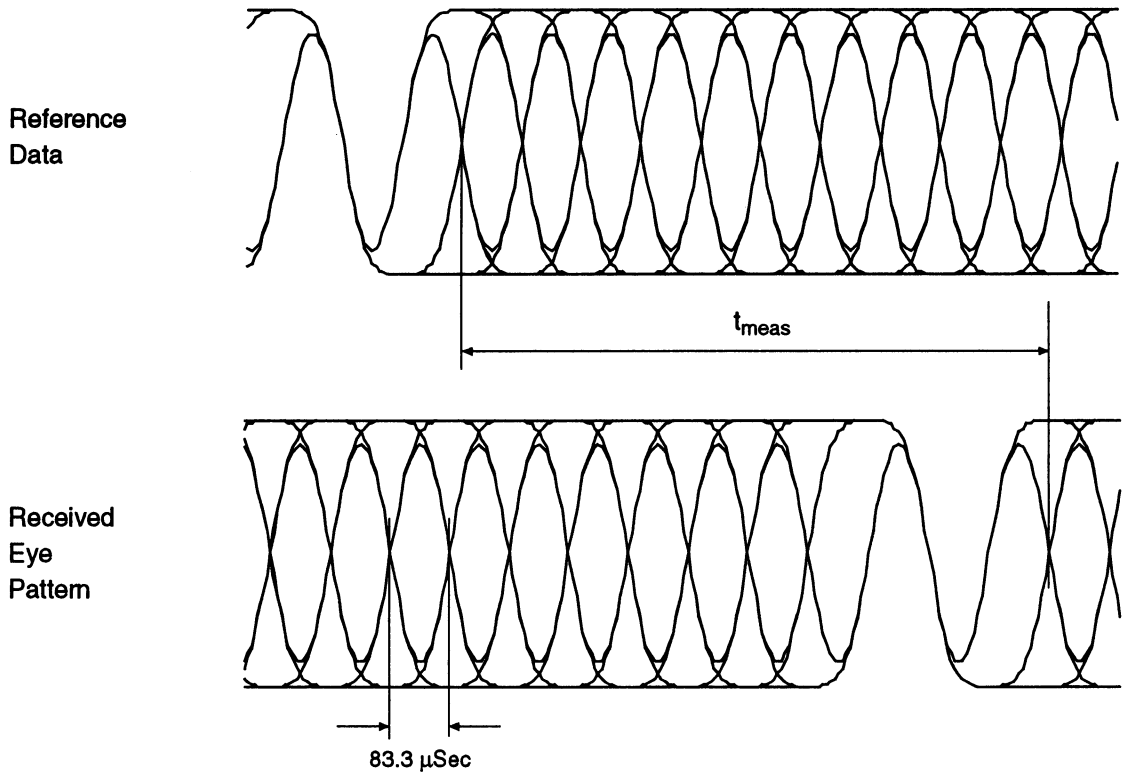

Figure 32. Two-Level Time Delay Measurement #1
- Step 24. Set the scope to trigger on the negative edge of channel 1 (use Normal Trigger, Chop Mode) to display a 12 kbit/sec filtered random data, or eye, pattern (Figure 32).
- Step 27. Select the scope timebase so the trigger of the reference data and the delayed trigger in the received eye pattern may be observed on the scope simultaneously. This will be approximately 200 μ s/div (see Figure 32).
- Step 28. Measure (approximately) the time delay between the two eye patterns (see Figure 32).
- f. Select the scope timebase so the trigger of the reference data and the delayed trigger in the received eye pattern may be observed on the scope simultaneously. This will be approximately 200 μ s/div (see Figure 32).